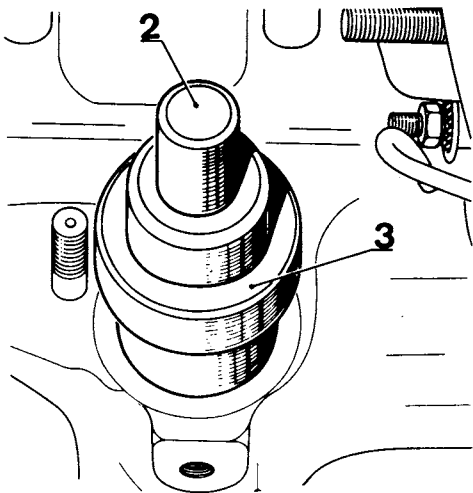

FIGURE 48. SLEEVE ASSEMBLY MANDREL
Refit the distributor drive gear into place. Locate the guide shaft (2) in the gear. Place the sleeve on the cylinder block (chamfer toward the cylinder block). Fit the assembly mandrel (3) over sleeve (Figure 48).